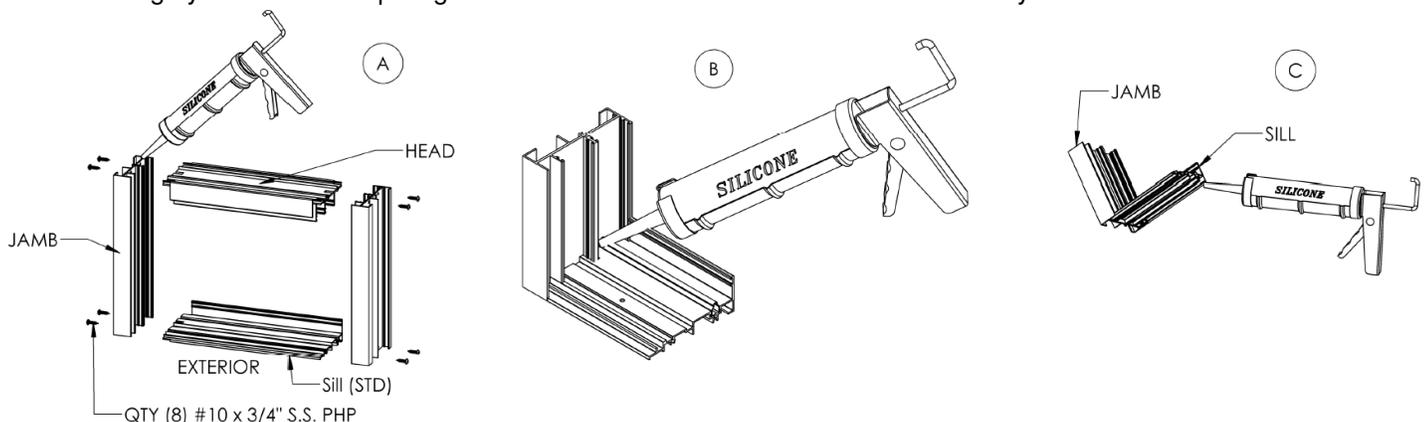

**Figure 7:**
1. Install male and female yokes with #8 x 3/4" screws, 6" from ends, maximum 18" on centers (Figure 7).